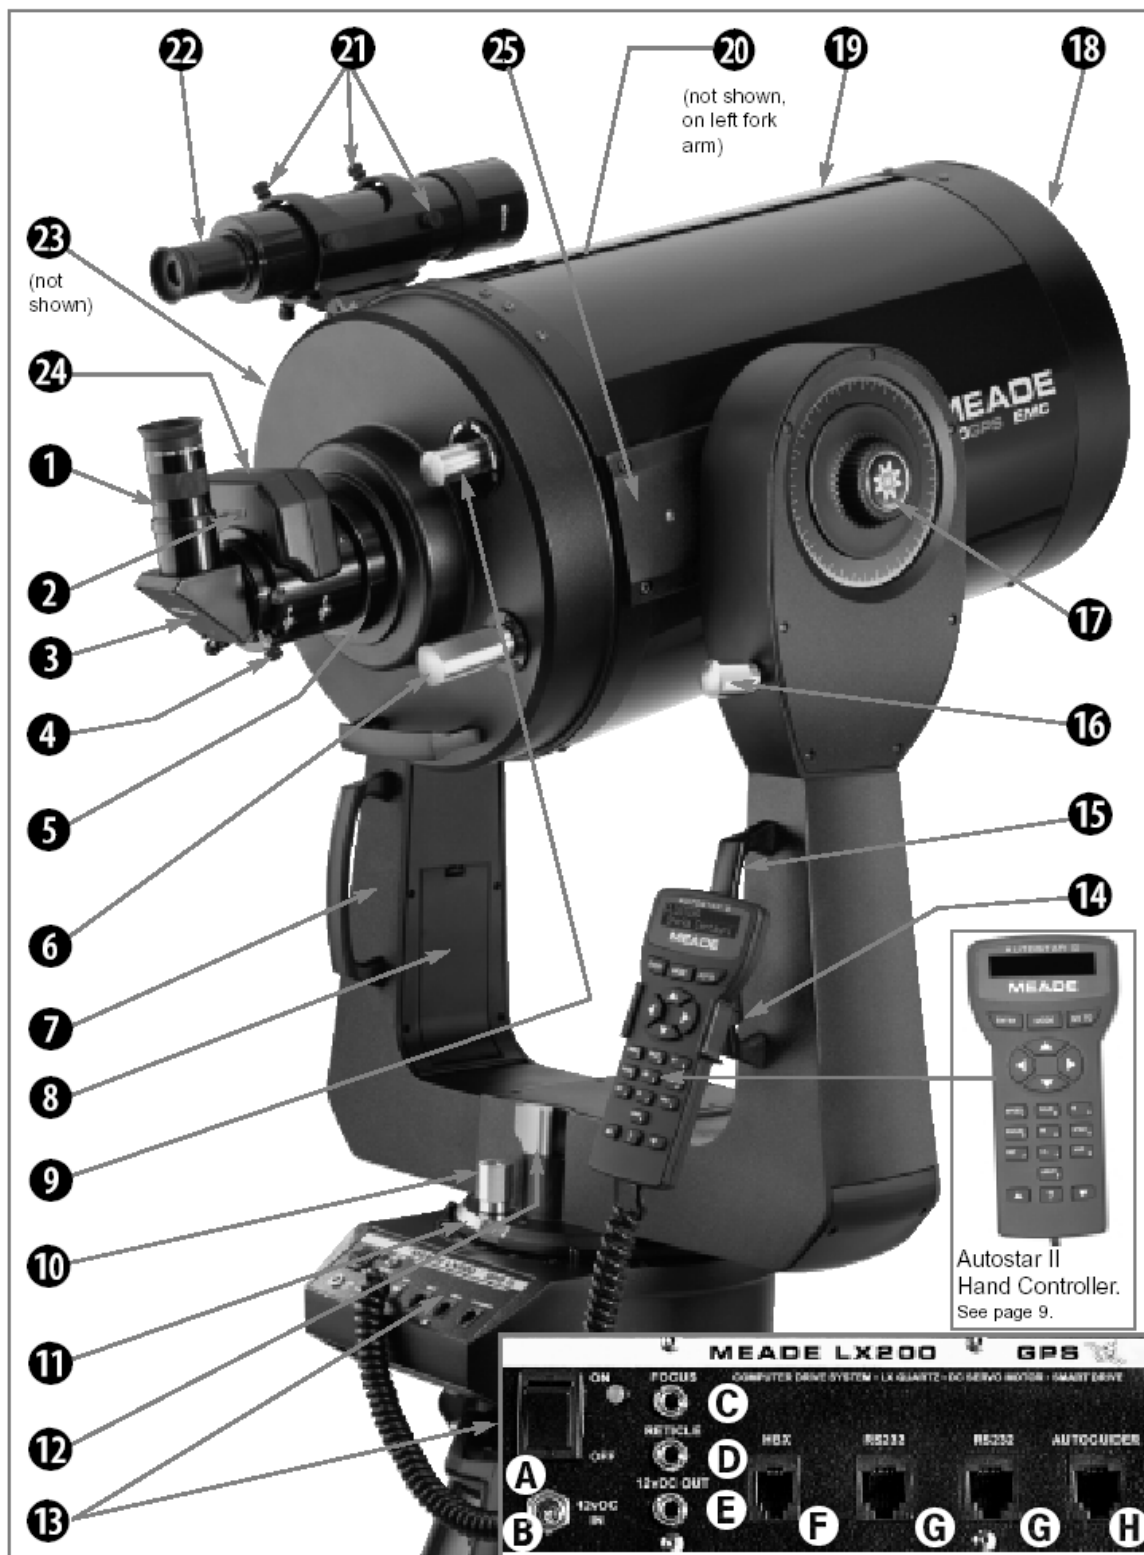

Fig. 1: The LX200GPS Telescope; Computer Control Panel (inset); Autostar II Handbox (inset).
☺ **Tip: If this does not work or you cannot remember this in the heat of the moment stop the scope by turning the telescope power switch off ① ③ A in Figure 1.**
- ① Eyepiece Holder:** This will take either a 2" eyepiece or a 1 ¼" diameter eyepiece with the adaptor that is normally left in place. The eyepiece is secured with the eyepiece thumbscrew (②, Fig. 1)
- ② Eyepiece Thumbscrew:** Holds the eyepiece (①, Fig. 1) in place. Lightly tighten only **△ Caution: over tightening may damage the eyepiece or the thumbscrew** **△ Caution: Ensure you tighten the thumbscrew enough so the eyepiece does not fall out.** ☺ **Tip** When a 1 ¼" eyepiece is being used there is a second thumbscrew to hold the adaptor in place. Ensure you loosen the correct one when changing eyepieces.
- ③ 2" Mirror:** Provides a more comfortable right angle viewing position. A 2" diagonal mirror with an adaptor to take 1.25" eyepieces is normally fitted to the Kenley telescope.
- ④ Diagonal Mirror Thumbscrew:** Tightens the diagonal mirror in place. Tighten to a firm feel only. ☺ **Tip** this allows diagonal to be rotated so the eyepiece is at a convenient position to use. **△ Caution: over tightening may damage the diagonal or the thumbscrew** **△ Caution: Ensure you tighten the thumbscrew enough so the diagonal does not fall out.**
- ⑤ Rear Cell Port:** The microfocuser assembly is mounted onto this port.
- ⑥ Coarse Manual Focus Knob:** Moves the telescopes primary mirror to achieve coarse image focus. To adjust the coarse focus you need to release the primary Mirror Lock ⑨ rotating it in a clockwise direction. ☺ **Tip** When using high magnifications you will find that the image moves a lot in the eyepiece as you focus due to play in the mirror mounting. You should lock the mirror using the mirror lock (⑨) and then focus the telescope using the powered microfocuser.
- ⑦ Fork Arms:** This heavy-duty mount holds the optical tube securely in place.
- ⑧ Battery Compartments:** Do not attempt to fit batteries - the Kenley telescope has its own external power supply.
- ⑨ Primary Mirror Lock:** Rotate this knob clockwise as shown by the unlock arrow to allow the focus to be adjusted manually. After adjusting the focus using the manual focus knob ⑥ rotate the knob in an anti-clockwise direction as shown by the lock arrow. Adjust the tension till you feel some resistance. **△ Caution: Do not over tighten** This action serves to lock in the coarse focus and prevent focus changes due to mirror flop. Use in conjunction with the Zero Image-Shift Microfocuser (see ⑥ and ②④).
- ①⑩ Right Ascension (R.A.) Slow-Motion Control:** **△ Caution do not touch this – use the handset controls to adjust the telescope position** **△ Caution: Do not operate the R.A. Slow Motion Control with the R.A. Lock in the fully locked position, as such operation may result in damage to the internal gear system and also cause you to lose alignment.**
- ①① Right Ascension (R.A.) Setting Circle:** You should not need to use this, as current RA is available from the handset. This should still indicate the correct RA if it does not report this to the Kenley Asset Manager. (You will need to check the setting of this if you have to realign the telescope.)
- ①② Right Ascension (R.A.) Lock:** **△ Caution do not touch this – use the handset controls to move the telescope position otherwise the pre set alignment to the sky will be lost.**
- ①③ Computer Control Panel (see Fig. 1 inset):**
- C. Focus Port:** The microfocuser is plugged into this port – you do not need to touch the connection. Control the microfocuser through the Autostar II menus. See **HOT BUTTON MENUS**, page 31 of the Meade Manual, and ②④ below.
G. RS232 Ports (2): One of these ports is connected to one of the computers in the control room allowing the telescope to be controlled from various astronomy programmes. Leave this connection as found.
2 4 4-Speed Zero Image-Shift Microfocuser: Allows precise image focus during visual, CCD, and astrophotography applications. Maintains precise image centring on even the smallest CCD chips. Operates at four speeds: Fine to fast using the Arrow keys of the Autostar II hand controller. This is connected to the Focus port (1 3 C Fig. 1). **☺ Tip** Before you set the course focus & lock the mirror you should set the Microfocuser to the mid-position. See the instructions in Focusing the telescope
10 Coil Cord: Plug one end of the Autostar II coil cord into the HBX port (**13 F**, **Fig. 1**) of the computer control panel of the telescope and the other end into the Autostar II coil cord port. This will already be connected. See **9** above.
- Then switch the telescope on using the telescope power switch ① ③ A in Figure 1
- Turn the telescope power switch ① ③ A in Figure 1 off